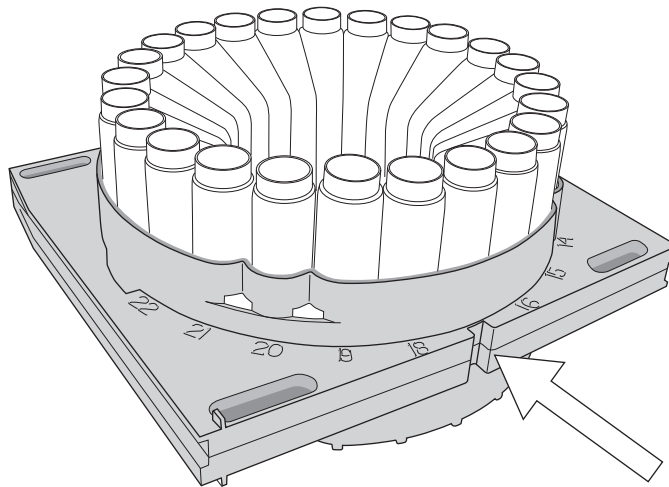

Figure 2-3 Insert the keyed end first so that it faces the back of the refrigerated compartment
1. Place the uncapped bottles in the rack (Figure 2-3).
3. Locate the back of the rack (arrow, Figure 2-3). This end has a notch that fits a key on the refrigerator's rear wall.